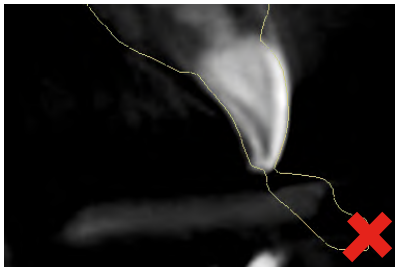

Figure 8: Artifacts
- Artifacts (please see figure 8)